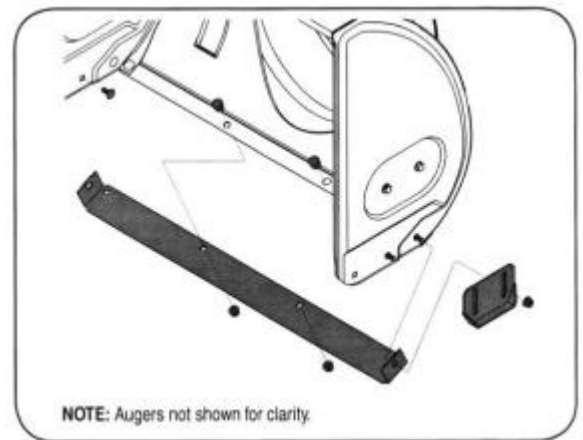

Figure 20
2. Reassemble new skid shoes with the four carriage bolts (two on each side) and hex flange nuts. See Figure 20.
2. Reassemble new shave plate, making sure heads of carriage bolts are to the inside of housing. Tighten securely. See Figure 20.